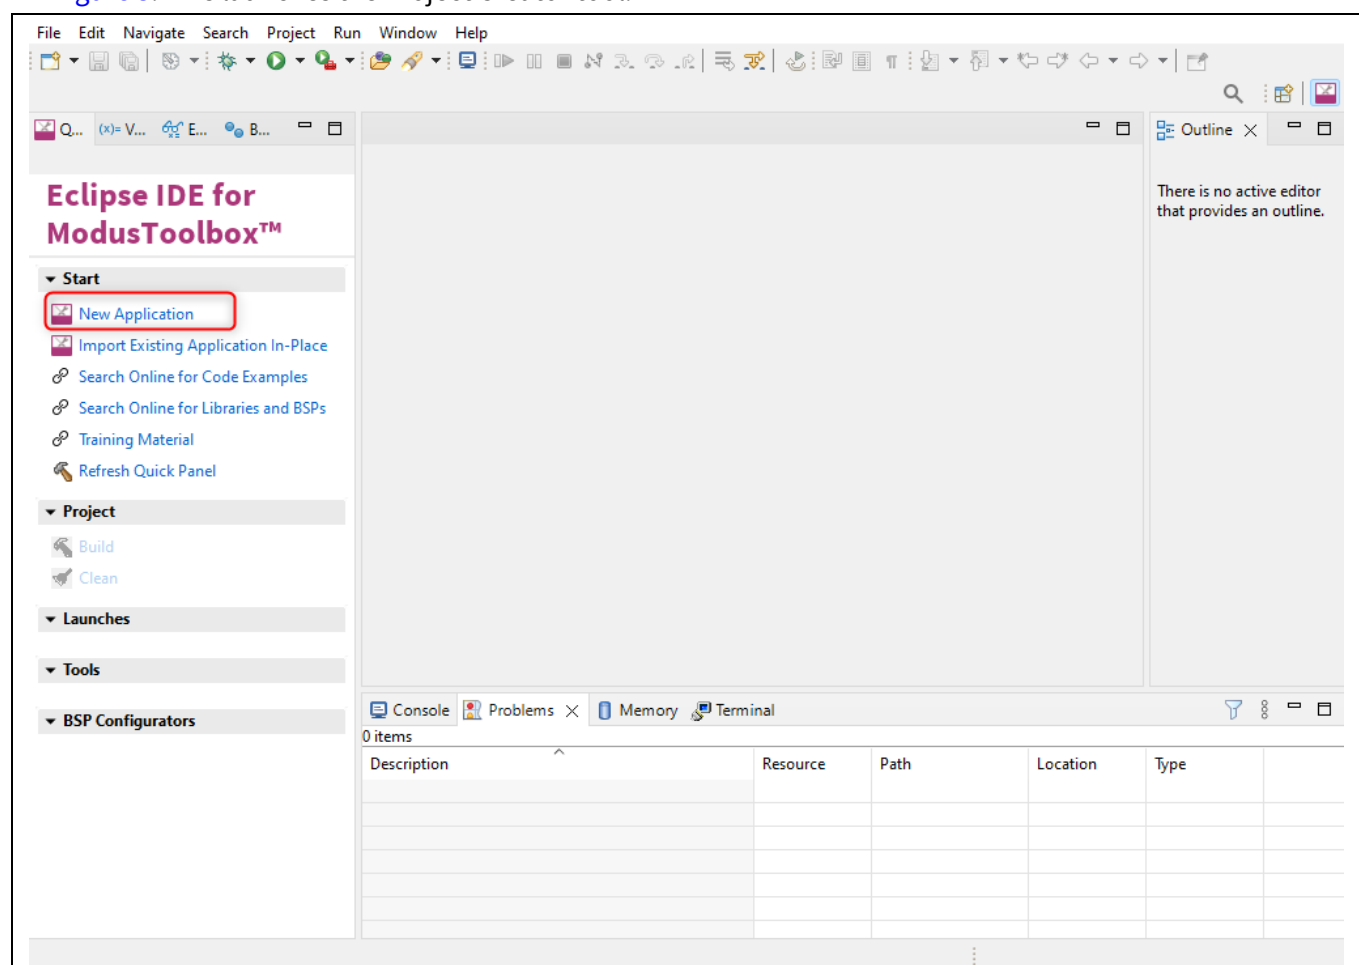

Figure 3 Creating New Application
- Click **New Application** in the **Quick Panel** (or use **File > New > ModusToolbox™ Application**), as shown in Figure 3. This launches the Project Creator tool.